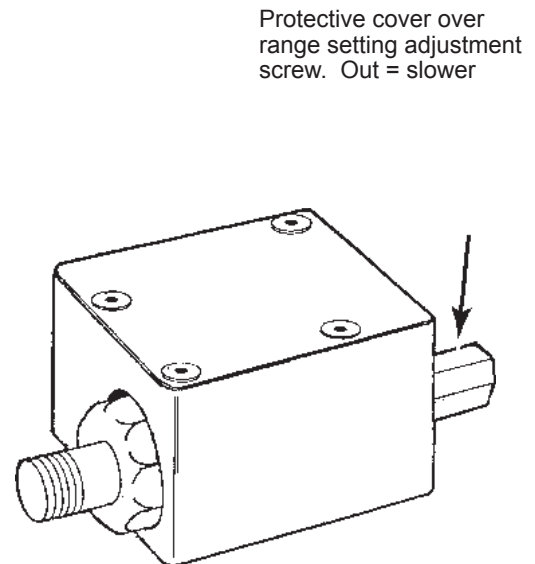

Fig. 2-16 – Optional Pressure Switch
6. Figure 2-16 shows the pressure switch. On the pressure switch, remove the cap from the range setting adjustment screw. Turn the screw out as far as possible. This will allow the pressure switch to open at the lowest pressure.